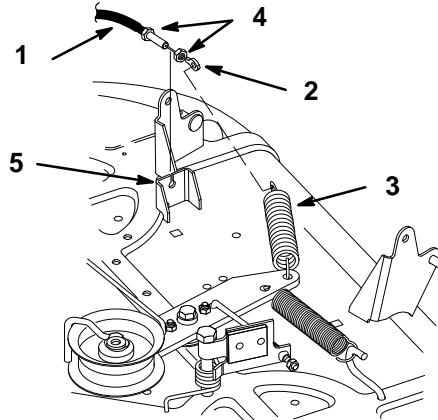

Figure 39
7. Remove jam nut from blade control (PTO) cable at mounting bracket. Slide the cable from the bracket (Fig. 39).
6. Unhook the blade control (PTO) cable ring end from the idler spring (Fig. 39).